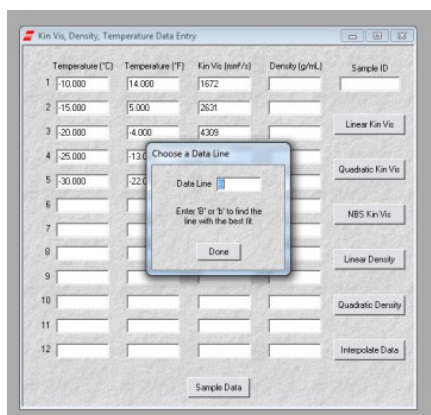

Figure 58: NBS Kin Vis Popup with B for best fit
- This opens a popup window, just click **Done** in window. (**B** is for best fit and auto-populates, leave that as is.) Refer to Figure 58.